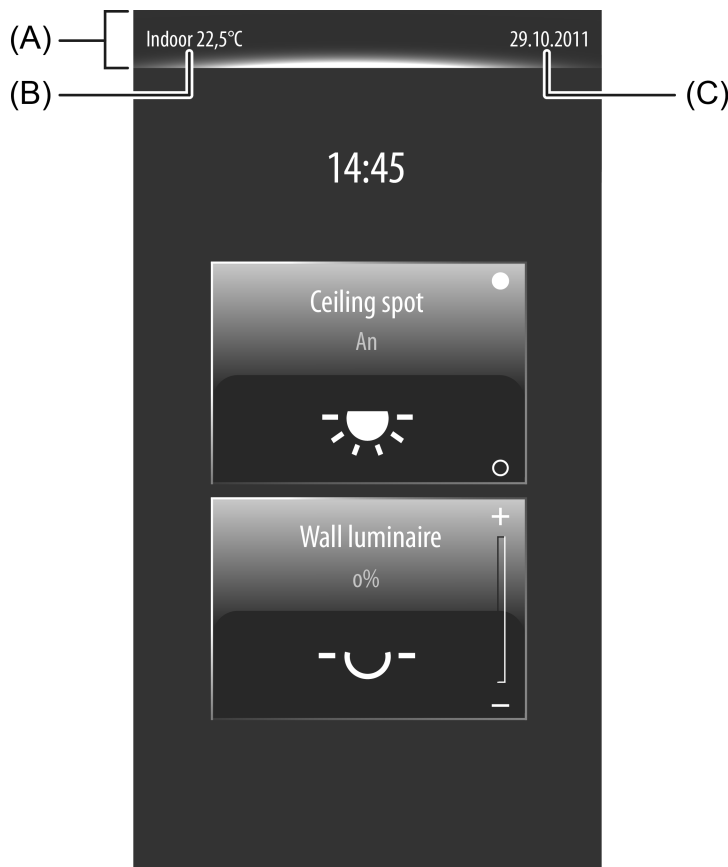

Figure 54: Example of a status line with indoor temperature and date display
In each display, a status line is displayed at the top edge of the monitor (figure 54). This status line (A) stands out visually from the rest of the display by means of a graphic horizon. The status line can contain different display information and operating elements.